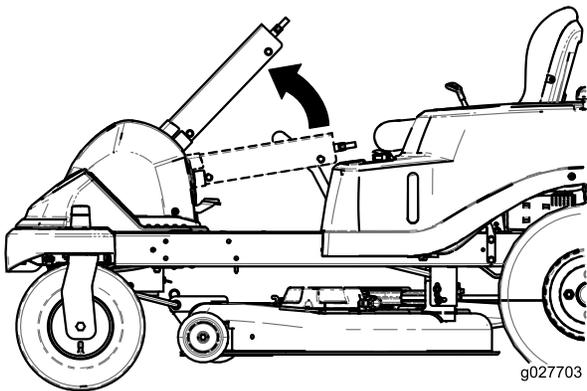

Figure 3
1. Rotate the steering column up to the user position (Figure 3).